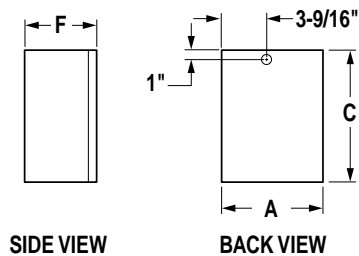

Figure 19. Wall Control Installation
- c. Install the wall control box as desired (surface or recessed mount) as shown in the wall control illustration, figure 19.